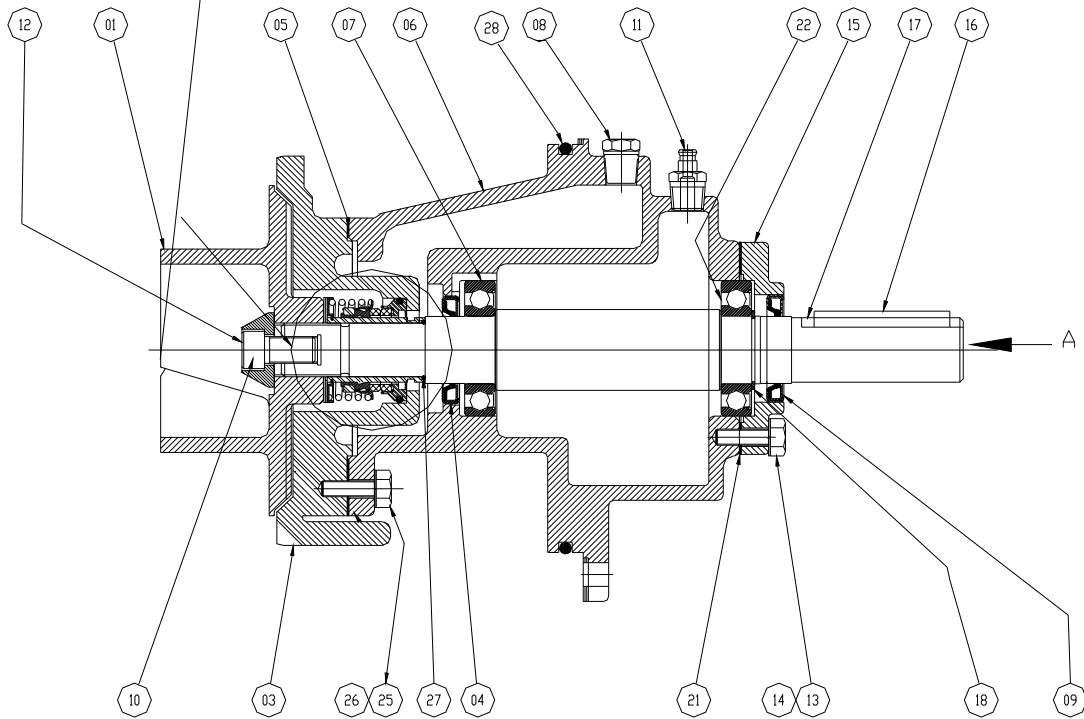

Figure 2 – Repair Rotating Assembly
Rotating Assembly Removal (Figure 2)
To install the tool, remove the air vent (8, Figure 2) from the bearing housing, and screw the longest length of pipe into the vent whole until fully engaged. Install the tee, and screw the handles into the tee. Use caution when lifting the rotating assembly to avoid injury to personnel or damage to the assembly.
Impeller Removal (Figure 2)
Seal Removal (Figure 2)
Shaft and Bearing Removal and Disassembly (Figure 2)
(Figure 2)
Position the inboard oil seal (7) in the bearing housing bore with the lip positioned as shown in figure 2. Press the oil seal into the housing until the face is just flush with the machined surface on the housing.